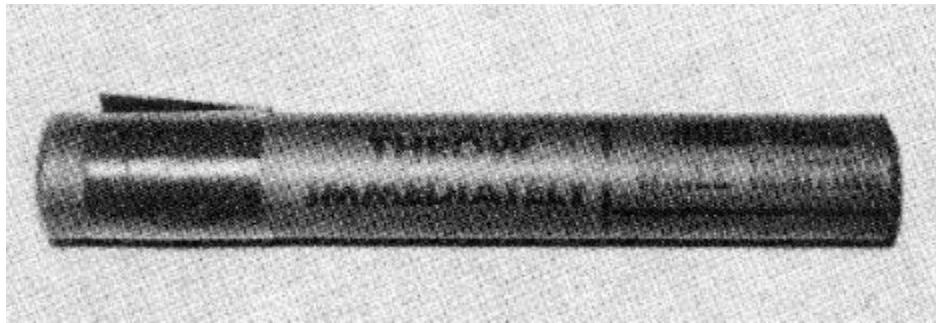

Figure 5-4      Thunderflash C1A1
The thunderflash, shown in Figure 5-4, is used to simulate exploding grenades and battle noises. It contains an explosive charge which could cause injury if improperly used.
4. Current Canadian produced thunderflashes are BROWN with BLACK markings. The serviceman may, however, still encounter the older model in the CF supply system. Although identical in size, shape, and functioning to the new version, it is RED in colour with BLACK markings. An instructional label with black lettering is affixed around the holder. This label also contains the lot number, filler and date of filling. See Figure 5-4.